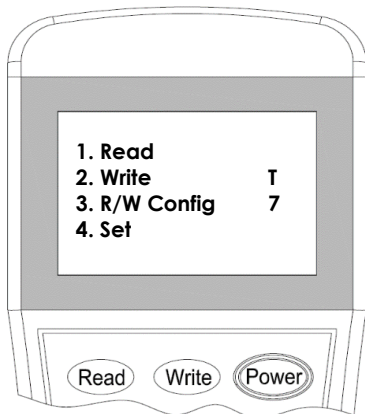
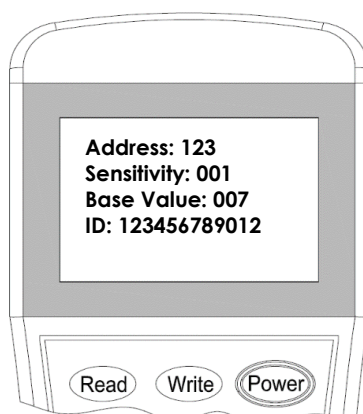

Figure 9
Figure 10
2. Switch-on the programmer, then press button “**Read**” or “**1**” to enter to Read mode (Figure 9). The programmer will display the configuration after few seconds. (Figure 10).